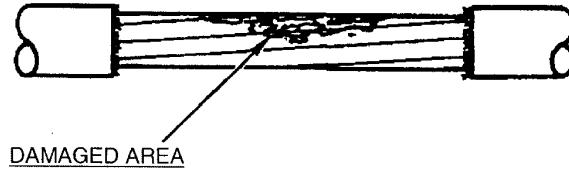

Figure 9. Damaged Multiconductor Wire.
f. Use small scissors or diagonal cutter to remove shield. Do not damage wires (Figure 9).